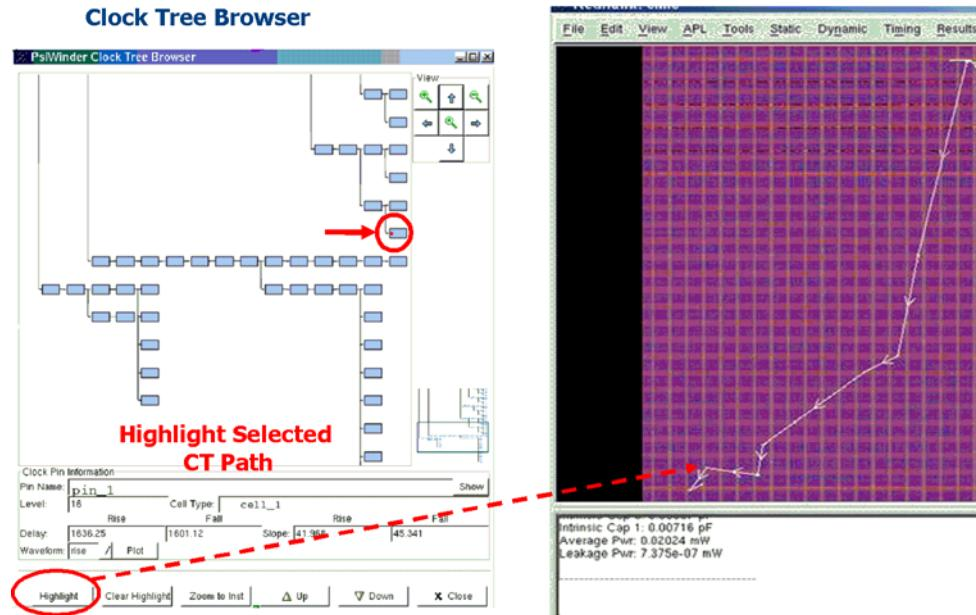

Figure 8-11 Highlighted clock network
- Highlight button: highlights the entire selected clock path from root to the selected pins in the GUI design layout window. If multiple pins are selected, the common path will be highlighted in yellow. See Figure 8-11.